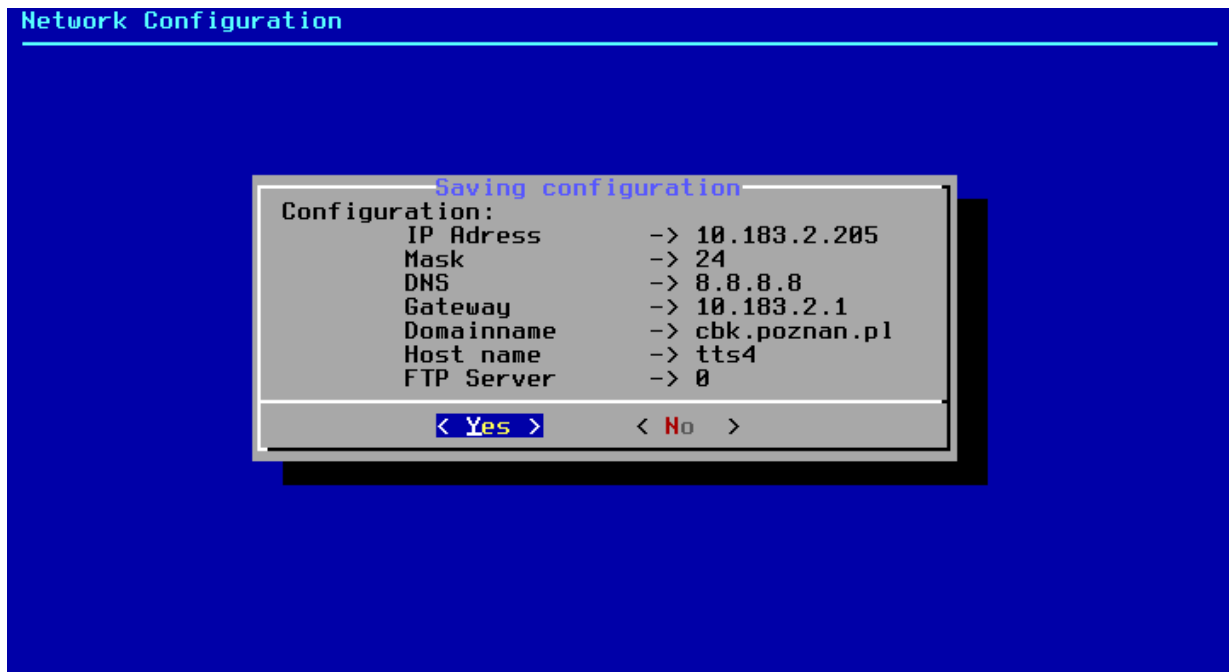

Figure 37: Network configuration saving.
3. select Save Setup (fig. 37)